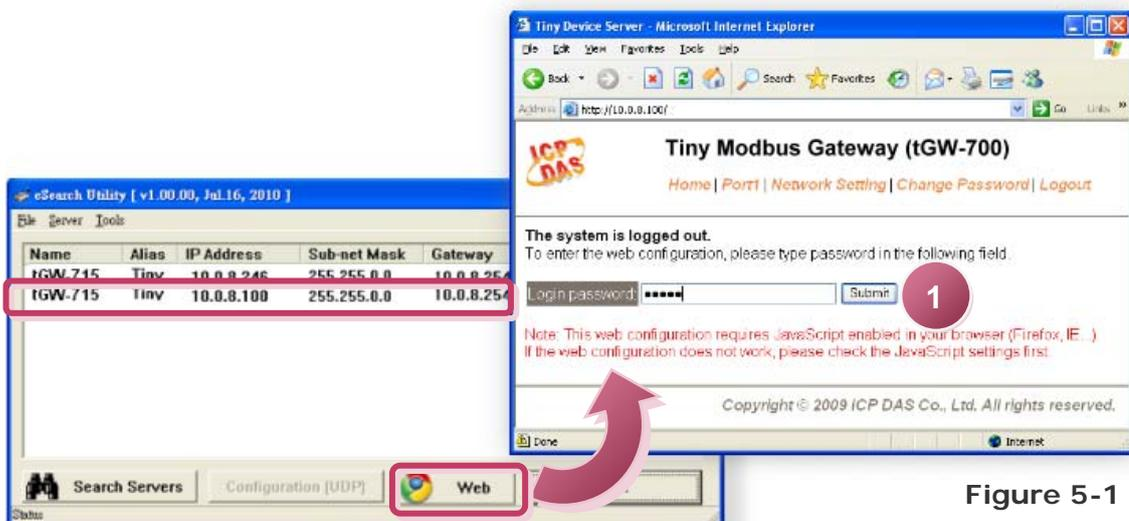

Figure 5-1
3. Set the Baud Rate to “**115200**”, data format to “**8, None, 1**” and Modbus protocol to “**Modbus RTU**”. (Refer to Figures 5-1~5-3 for illustrations of how to perform the above steps.)